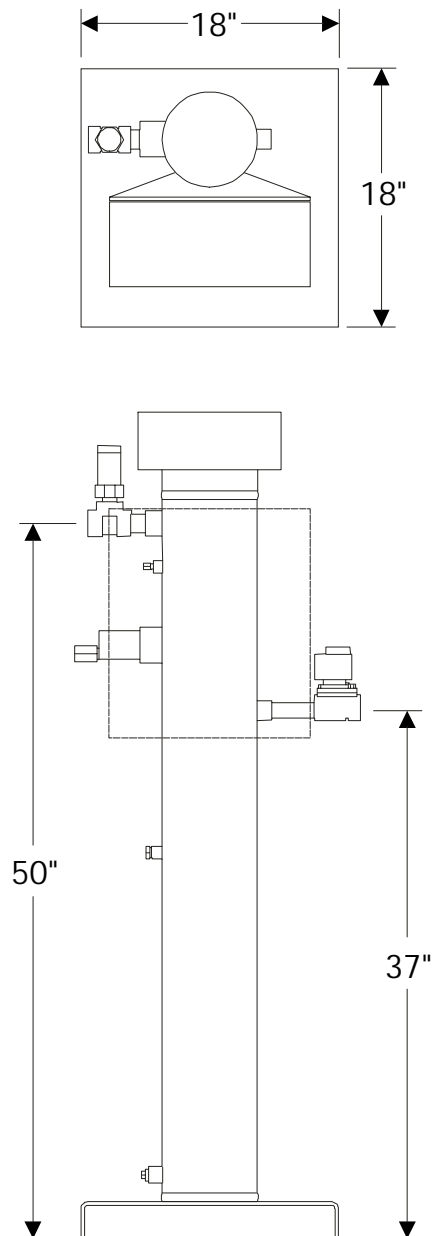

Figure 2-1 - RE80LE Series Physical Specifications
2.03 Figure 2-1 illustrates a typical Vaporizer and is provided with key letter callouts for Physical dimensions.
4.01 Table 4-1 will provide the user with tabulated performance specifications for RE Series Vaporizers. Figure 2-1 illustrates the physical specifications of respective RE Vaporizers. The user will find this useful when planning new installations.